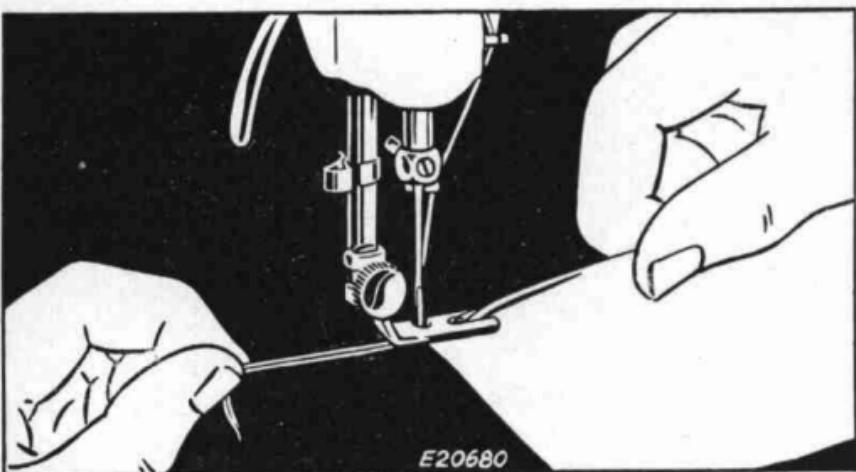

FIG. 36. STARTING HEM AT VERY END OF MATERIAL
- (1) Fold edge of material twice, about $\frac{1}{8}$ inch each time, for a distance of about two inches. Crease folds.
- (2) Lay about three inches of needle and bobbin threads back under hemmer. Place creased edge of material under hemmer with end of hem directly under needle. Lower hemmer and tack end of hem with two machine stitches.
(3) Raise hemmer. Pull threads and hem slightly from you with left hand, then while holding threads, draw material toward you with right hand into scroll of hemmer until tacked end is caught in hemmer, as shown in Fig. 36.